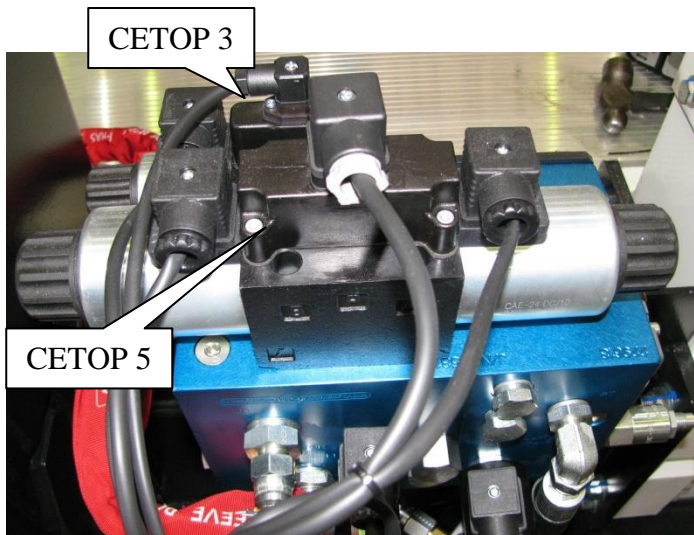
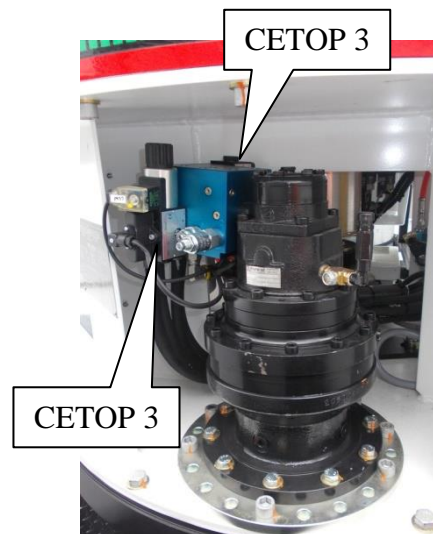

Figure 3: Base Manifold
Figure 4: Slew Motor Manifold
- 2) Locate the base manifold at the rear of the EWP – see Figure 3.
- 2) The CETOP 3 valves are located on the base manifold at the rear of the EWP – see Figure 3, as well as on the slew motor manifold in the turret of the EWP – see Figure 4.